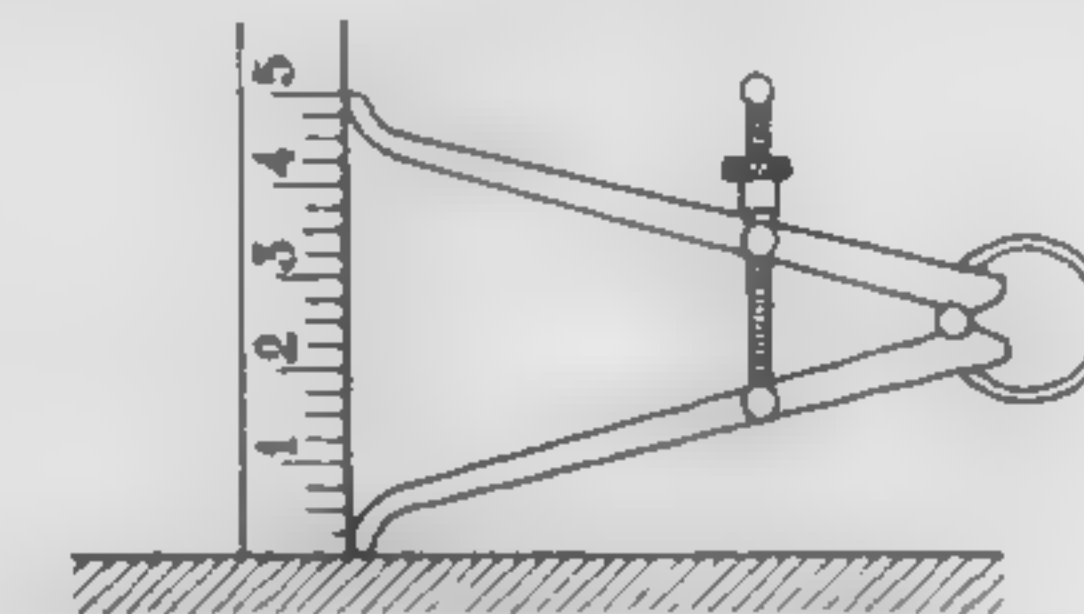

Fig. 16. Reading Setting of an Inside Caliper
3. Place one end of a steel rule on a horizontal surface. Hold the caliper legs on the surface against the rule, as shown in Fig. 16. Next, read the dimension on the rule.